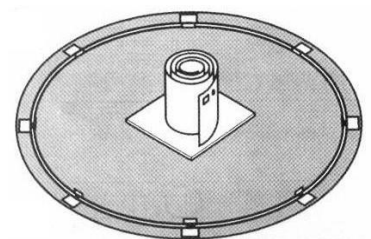

fig. 15
a) Place the steel wall vertically (CH) (the inner sticker of the wall facing upwards) on a cardboard at the centre of the circle. This will make it easier to unroll and will avoid scratch marks underneath the wall, fig. 15. The cast of the skimmer is at the end of the roll of the wall.